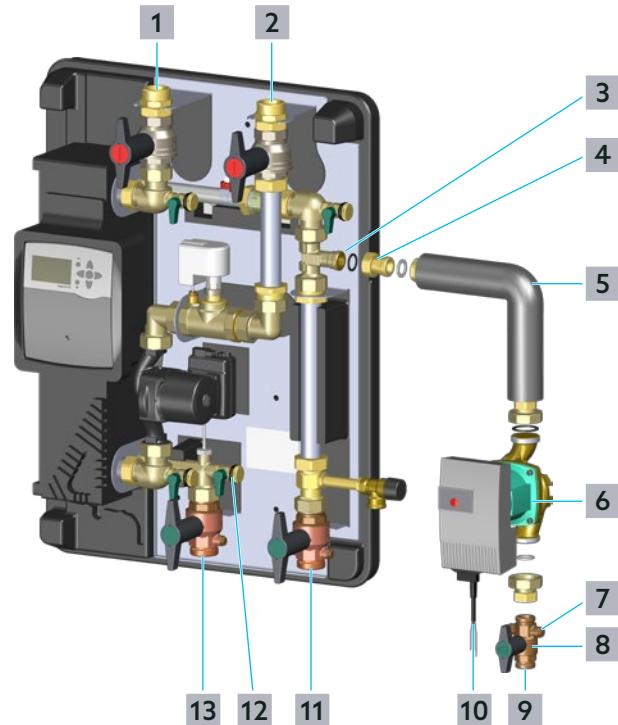

Fig. 2: System example
- 2 Slowly close the shutoff ball valve in the cold potable water supply (position 11 in Fig. 2 on page 5).
- 3 Slowly close the shutoff ball valve in the hot potable water return (position 13 in Fig. 2 on page 5).
- 4 Unscrew the cap of the fill and drain ball valve for hot potable water (position 12 in Fig. 2 on page 5) and connect a drain hose.
- 6 Unscrew the cap from the connection for the circulation set (position 3 in Fig. 2 on page 5).
- 7 Mount the check valve (position 4 in Fig. 2 on page 5) with the associated sealing ring to the station.
- 8 Mount the pipe elbow (position 5 in Fig. 2 on page 5) with the associated sealing ring onto the check valve.
You can install the high-efficiency pump (accessory) and the ball valve (position 8 in Fig. 2 on page 5) as required between the last draw-off point and the fresh water station in the "hot potable water circulation return".
- If you want to set up your system according to the system example in Fig. 2 on page 5, screw the high-efficiency pump you have selected to the pipe elbow. Observe the instructions in the documents enclosed with the pump.
- Mount the ball valve (position 8 in Fig. 2 on page 5) at any position between the last draw-off point and the pipe elbow.